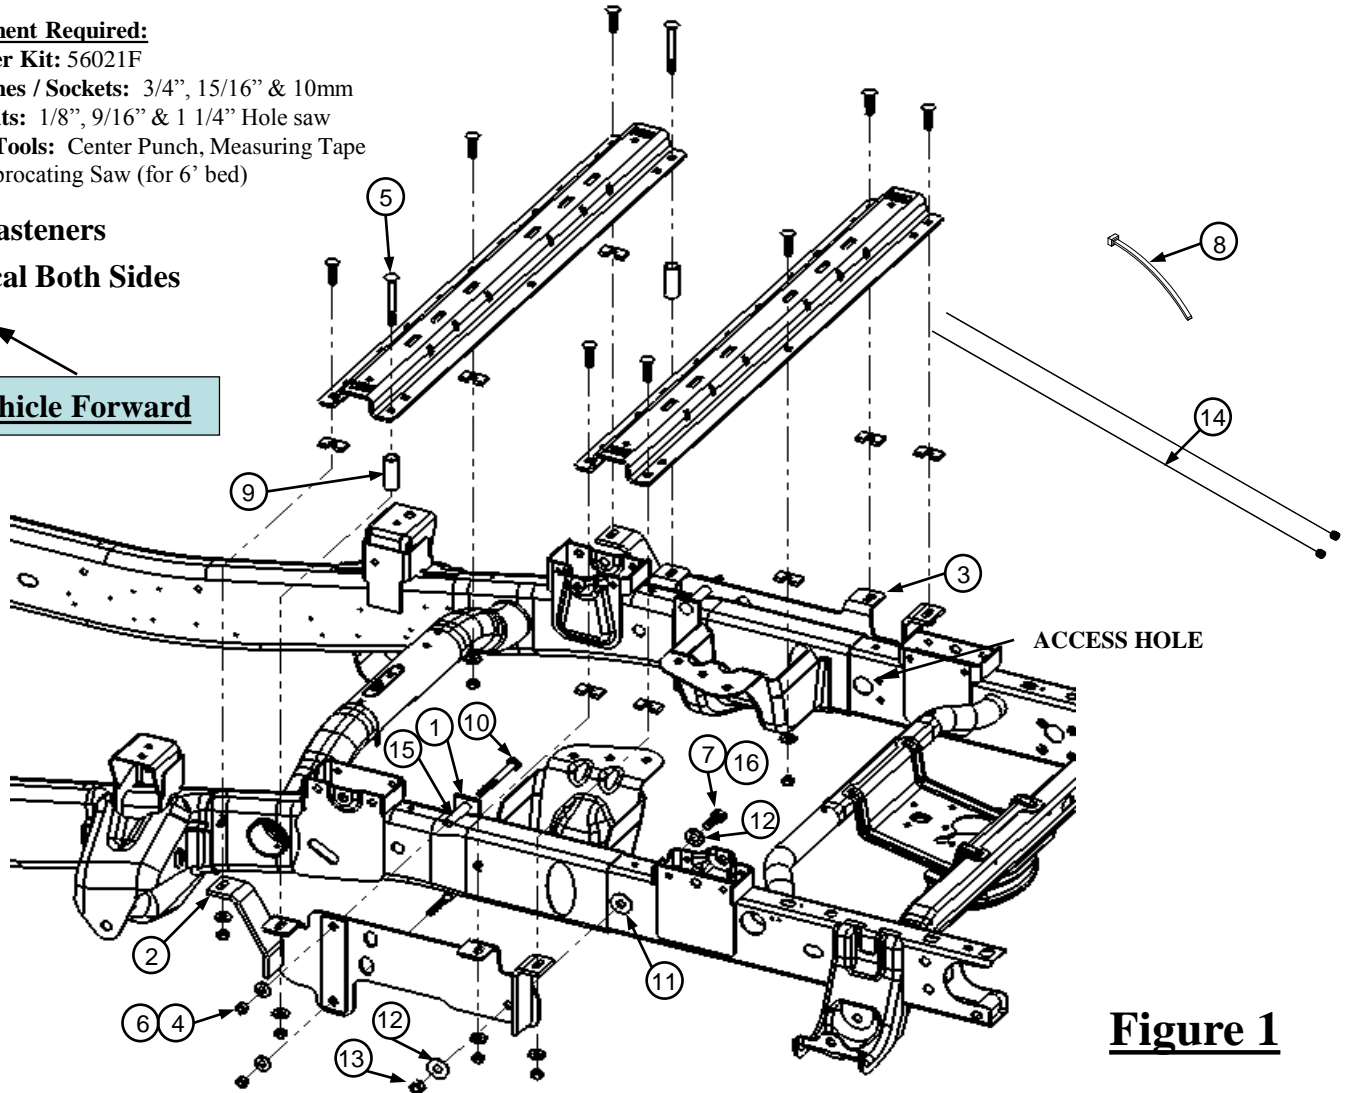

Figure 1
8. For 2013-18 Trucks ONLY, Using 5/8" pull wire (14) install 5/8" bolt (7) through access hole on the inside of frame, place 5/8" flat washer (11) on the 5/8" bolt (7) on the outside of frame. Route the pull wire through rear hole of the frame bracket (2) (3), loosely install the 5/8" conical washer (12) and 5/8" nut (13). For 2019-Up trucks ONLY use 5/8 x 4.5" (16) bolt in place of shorter 5/8" (7) bolt. This longer bolt will pass through the frame. (See Figure 1)
9. Loosely install straps (1), carriage bolts (10), side brackets (2) (3), washers conical 1/2" (4) and nuts 1/2" (6). (See Figure 1.)
10. Move the mounting rail into position. Install the 1/2"-13 x 2 1/2" carriage bolts with the U-shaped spacer to be located in the corrugation between the box and the mounting rail or between the box and the side bracket (2) (3). **(Note the U-shaped spacer is to eliminate crushing bed corrugation.)** Attach with spacers and nuts as per the illustrations and tighten snug to keep the mounting rail from moving.